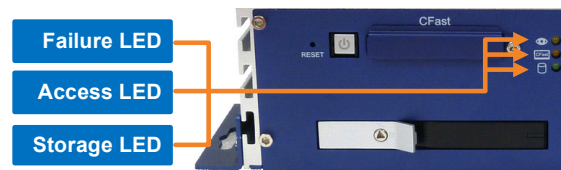

Figure 2-2
- A. If the unit is connected with a power adapter, press the power button to turn on the power. The Access Indicator LED (Figure 2-2) flashes red illumination. To turn off the power, just shut down the system.
- B. If the unit is connected with the ACC wire, start the vehicle to activate the unit. The unit will automatically start after you power on the vehicle. After 20 seconds later, the Access Indicator LED (Figure 2-2) flashes red illumination. After 70 to 80 seconds later, the unit will start recording. To turn off the power, power off the vehicle and the unit will automatically turn off within 1 minute.
1. Stop the recording and wait for 30 seconds until the Storage Indicator LED (Figure 2-2) located on the right panel turns off.